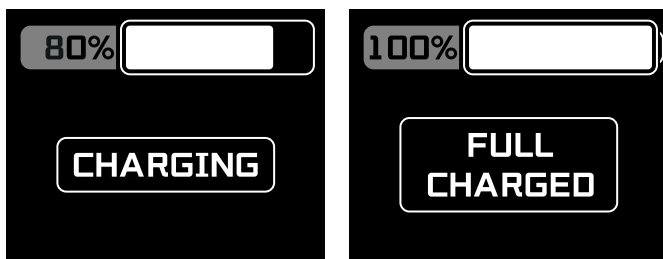

Figure 4.3.3.6
(11) Battery charging status display (as shown in Figure 4.3.3.6)